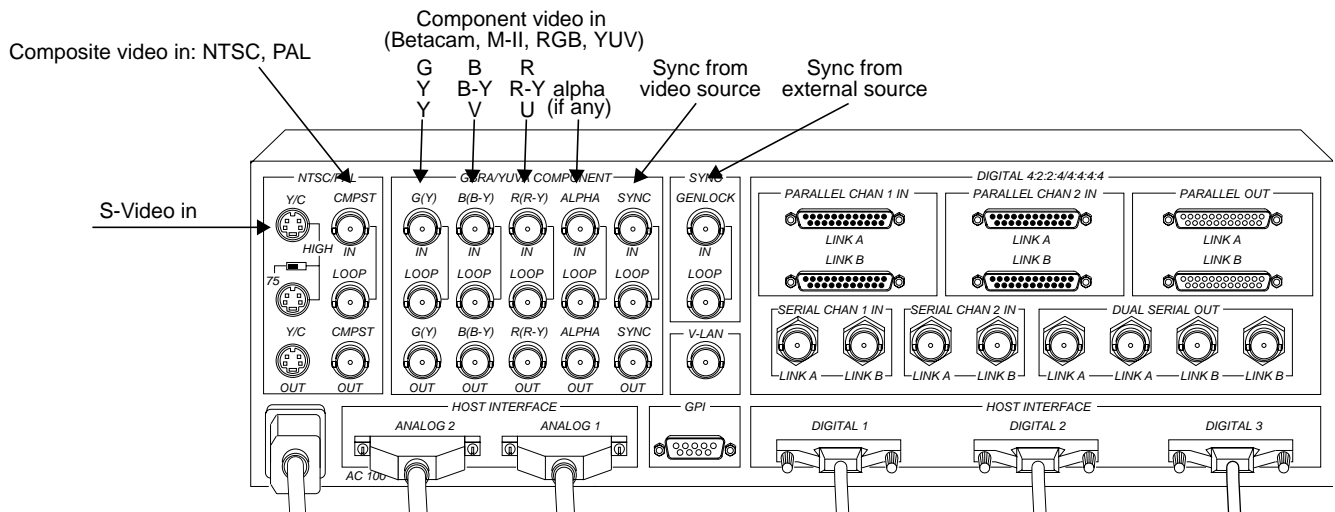

Figure C-5 Analog Input Ports on the Sirius Video Breakout Box
1. Connect the analog source equipment into the appropriate socket on the input row of the analog side of the breakout box, as shown in Figure C-5.
- If you are syncing to the analog input, make sure the sync signal is cabled to the **SYNC IN** port on the breakout box, as shown in Figure C-5.